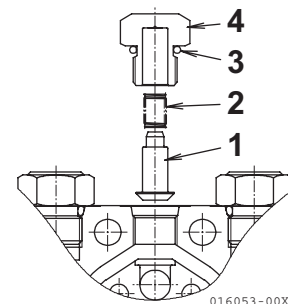

Fig. 3 Check valve section
(3) Standard type (P.T.O. 1 and P.T.O. 2 sections (See Fig. 3))